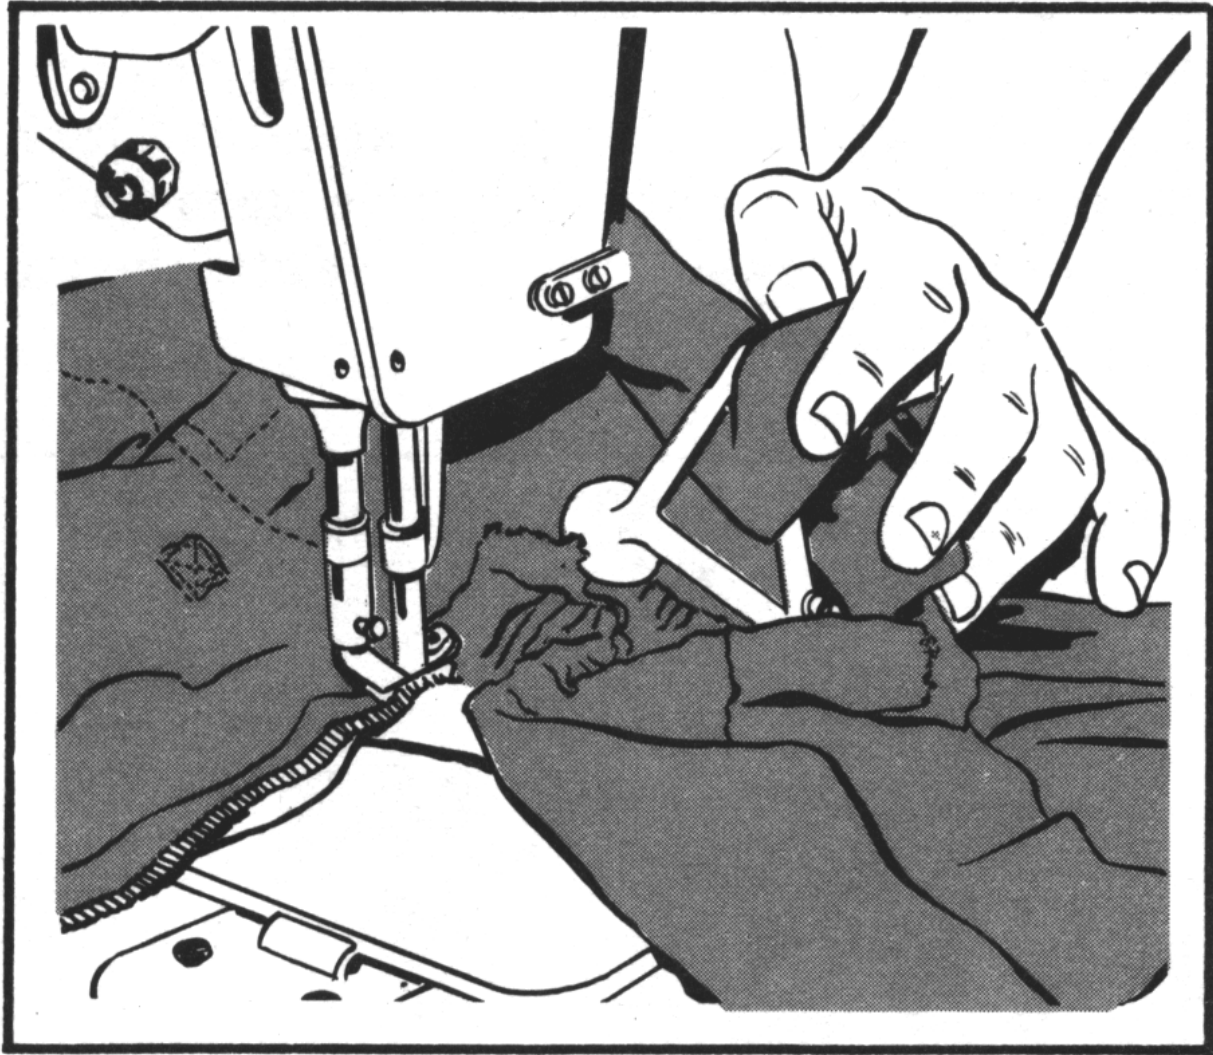

Figure 9-21. Sewing new zipper in place
- j. Sew a seam 3/16 inch from the folded edge of the zipper (Figure 9-21). Sew to the eave of the tent, and tack the seam with a 1-inch tack.